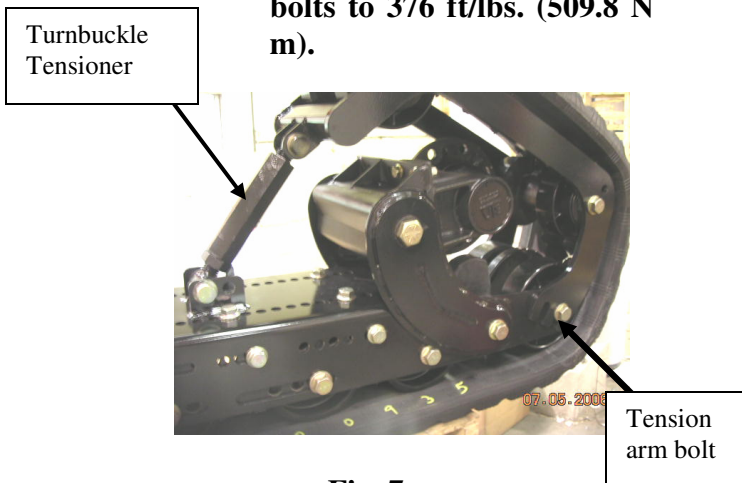
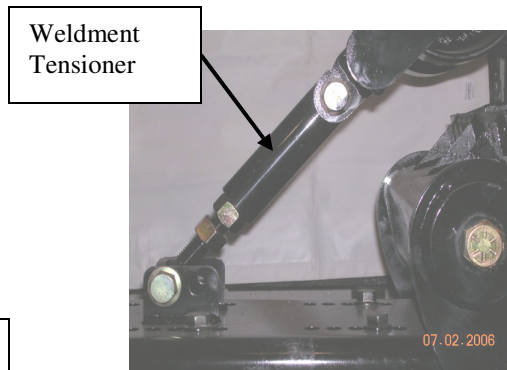

Fig. 7
Fig. 8
- Loosen the two ¾" tension arm bolts on the tension arm assembly. (Fig 7.)
- Determine what style tensioner that you have. The two styles are the hexagon turnbuckle (Fig 7.) and the round weldment (Fig 8.) on the next page